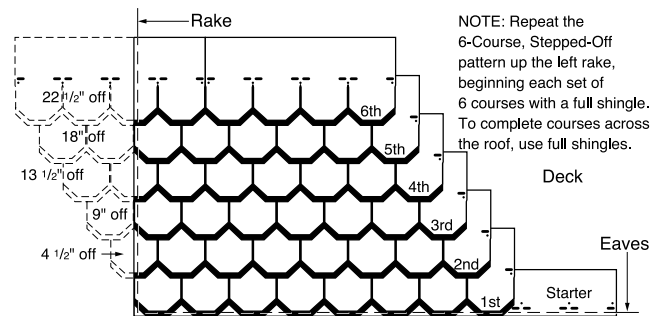

Figure 19-15: Four-and One-Half Off, Six Up (Carriage House).
2. Locate fasteners in starter strip about 1½" up from the bottom edge, so they are centered under the first-course tabs. Continue with full 10" by 36" lengths along the eaves (Figure 19-15).
1ST COURSE: Apply a full shingle at the lower left corner of the roof, tabs flush with starter course (Figure 19-15).